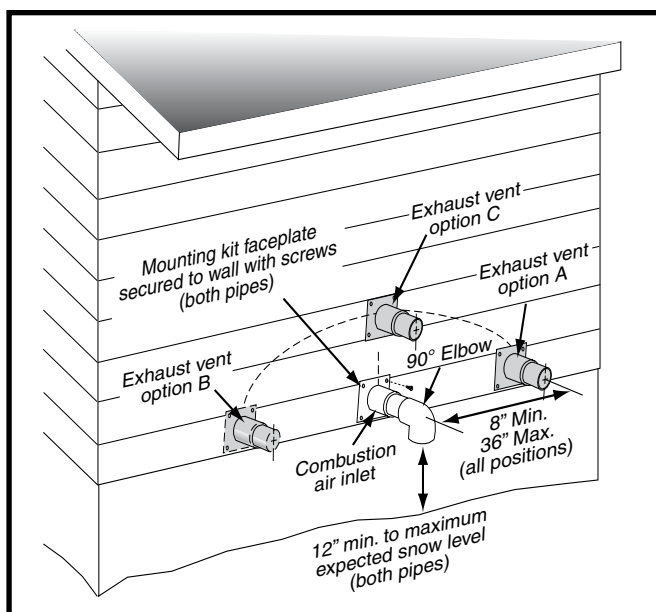
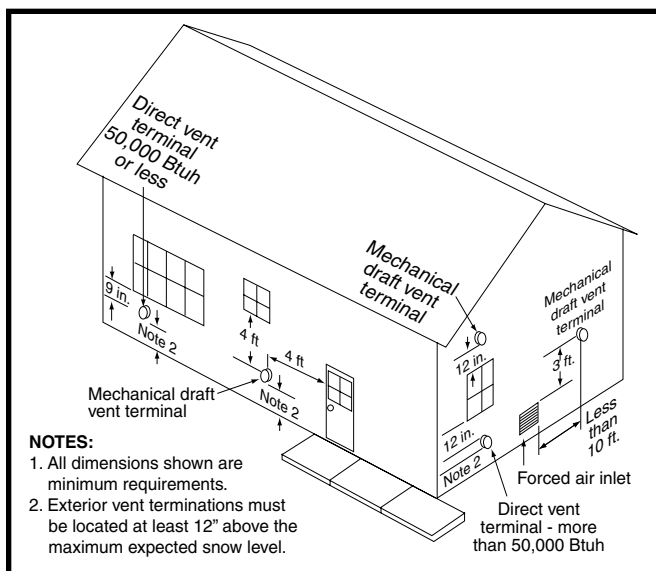
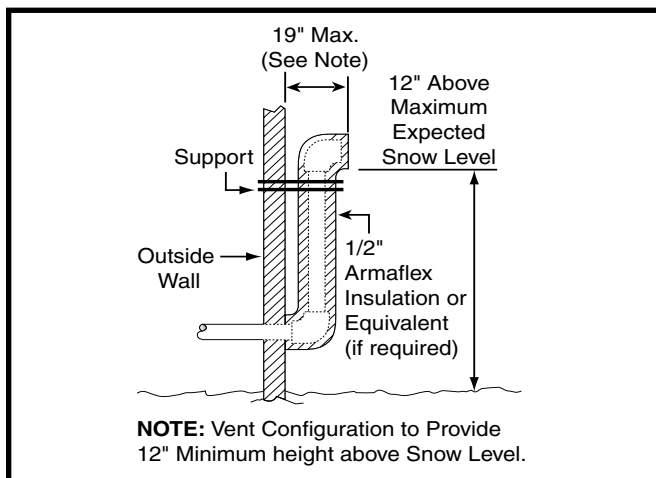
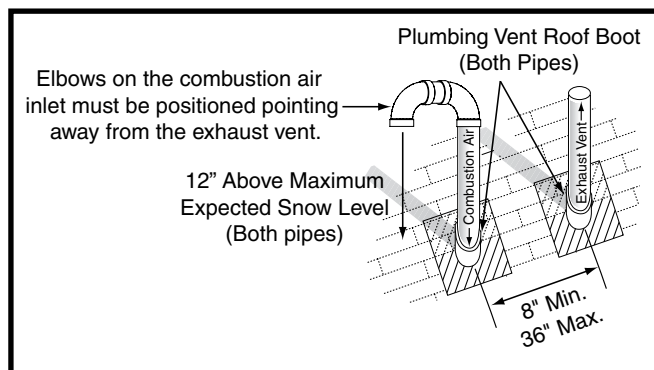

Figure 1. Inlet & Exhaust Pipe Clearances
Figure 2. Vent Locations
Figure 3. Alternate Horizontal Vent Installation
Figure 4. Vertical Vent Termination
- When a 2-pipe system is used, the combustion air intake and the vent exhaust must be located in the same atmospheric pressure zone. This means both pipes must exit the building through the same portion of exterior wall or roof as shown in Figure 1, Figure 2 & Figure 4 (page 9) and Figure 29 (page 38).
- Vent and combustion air intake terminations shall be installed as shown in Figure 1, Figure 2, Figure 3, & Figure 4 and in accordance with these instructions:
- All minimum clearances (Figure 2) must be maintained to protect building materials from degradation by flue gases.
- When the vent pipe must exit an exterior wall close to the grade or expected snow level where it is not possible to obtain clearances shown in Figure 1, a riser may be provided as shown in Figure 3. Insulation is required to prevent freezing of this section of pipe. See Table 3, \(page 10\) for vent freezing protection.
Termination spacing requirements from the roof and from each other are shown in Figure 4. The roof penetration must be properly flashed and waterproofed with a plumbing roof boot or equivalent flashing. Vent and combustion air piping may be installed in an existing chimney which is not in use provided that:
- The termination clearances shown in Figure 4 are maintained.